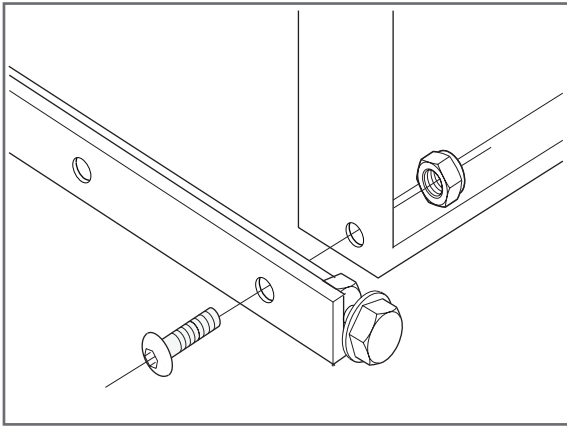

Figure 3
6. Insert one button head cap screw (G) in each hole fastening with one nylock nut per screw (H). Do not tighten (Figure 3).